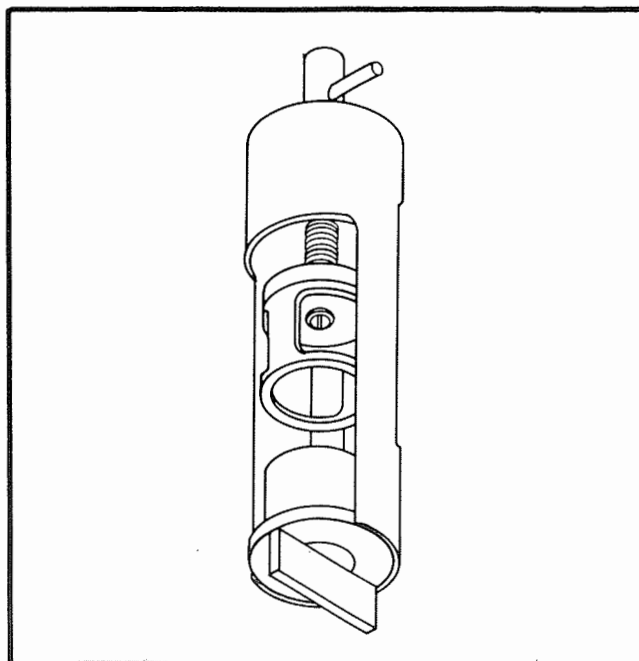

Figure 7-35. Rear Oil Pump Pressure Strainer Disassembly and Assembly Fixture
a. Place the flat end of fixture 808709, shown in figure 7-35 in a vise.